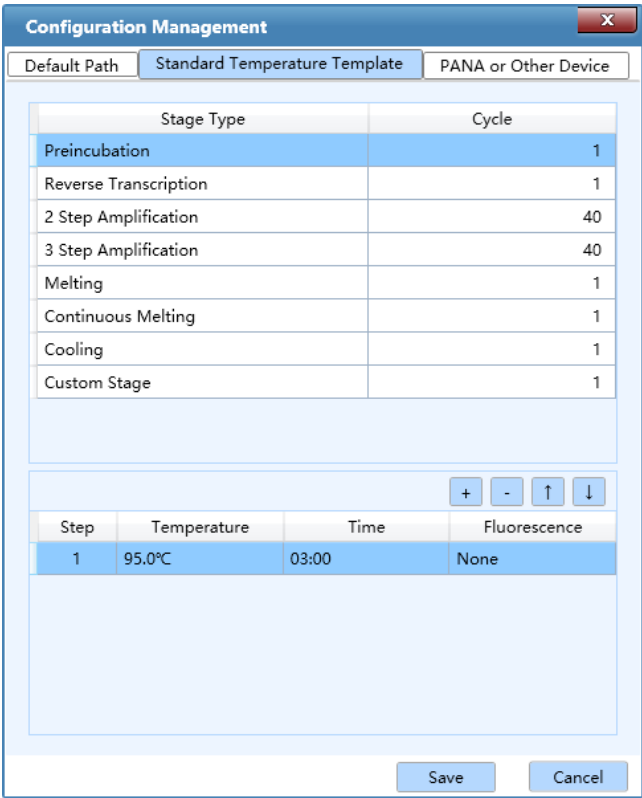

Figure D-3.8b. Configuration Management Interface - Standard Temperature Template Tab
- **Standard Temperature Template** tab: 7 predefined standard temperature templates are displayed in this tab, as shown in figure D-3.8b. These templates are provided by the application software for temperature program stage settings.